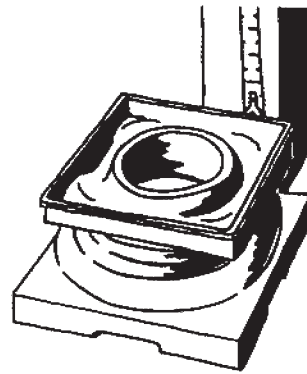
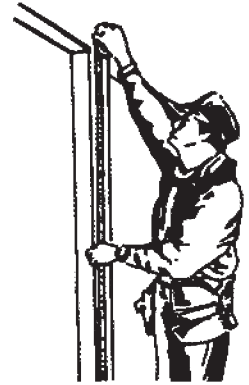

FIGURE 5-1
FIGURE 5-2
1. Measure the entire height of the overhang opening from the soffit to the deck. Subtract the space taken up by the base and plinth assembly and the capital assembly. A good technique is to set the cap and base on the deck (Fig. 5-1) and then measure up to the soffit or beam (Fig 5-2). Be especially careful to account for the height of ornamental capitals with their wooden plugs.